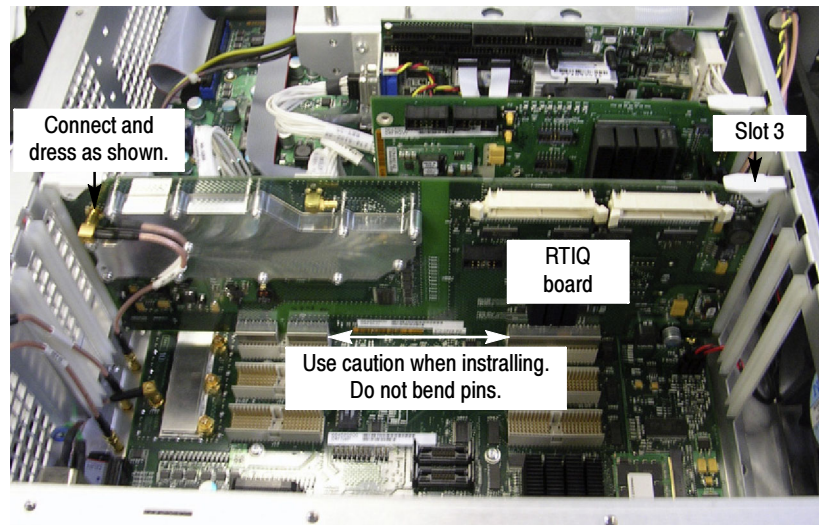

Figure 3: Installing RTIQ board
2. Install the RTIQ board into Slot 3 (counting from the rear of the instrument) as shown in Figure 3. Be careful not to bend the pins on the Digital Interface Board.
3. Connect the 175-05084-XX cable assembly, provided in the kit, between the bulkhead connector and connector on the RTIQ board as shown in Figure 3. Be sure to dress the cable as shown in the illustration.